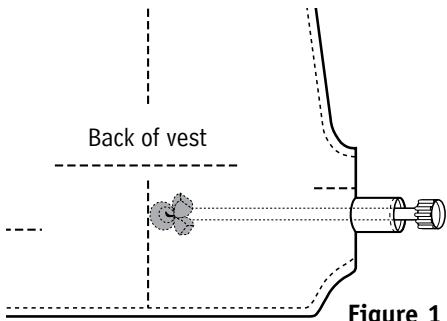

Figure 1
1. Insert the muffler end of the CH1000 cooling vest connector hose well into the air entry sleeve of the vest leaving 2" of the connector hose exposed (Figure 1).